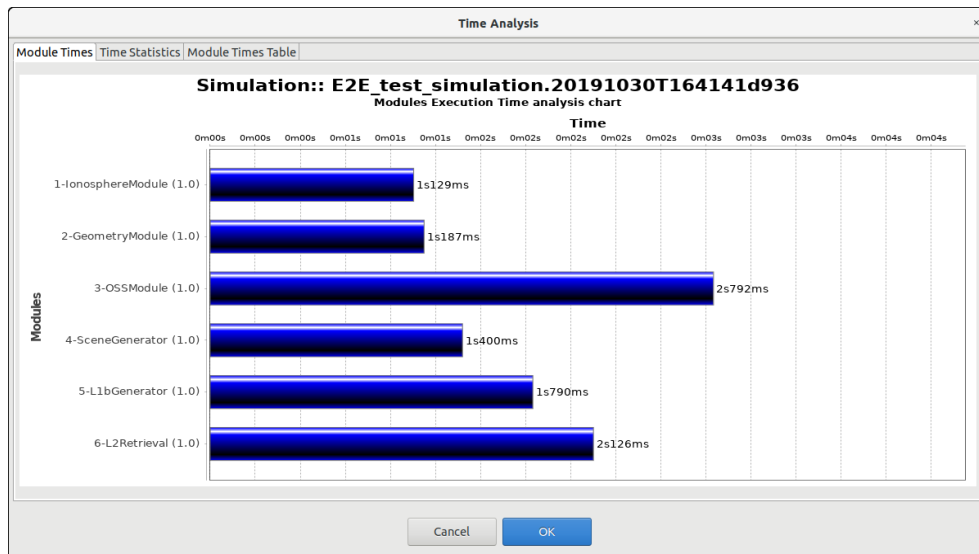

Figure 4-66: Bar graph showing module times
- *Module Times Table* tab: shows the same information that the bar chart graph but in a table. See Figure 4-66.